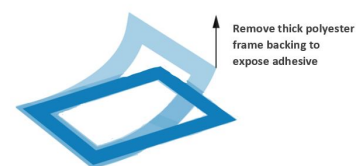

Figure 73: Remove polyester frame backing
- Carefully remove the thick polyester frame backing (with the center square removed) from the incubation frame to expose the top adhesive layer of the incubation frame (Figure 73). **Ensure that the incubation frame does not lift from the slide when removing the polyester frame backing.**